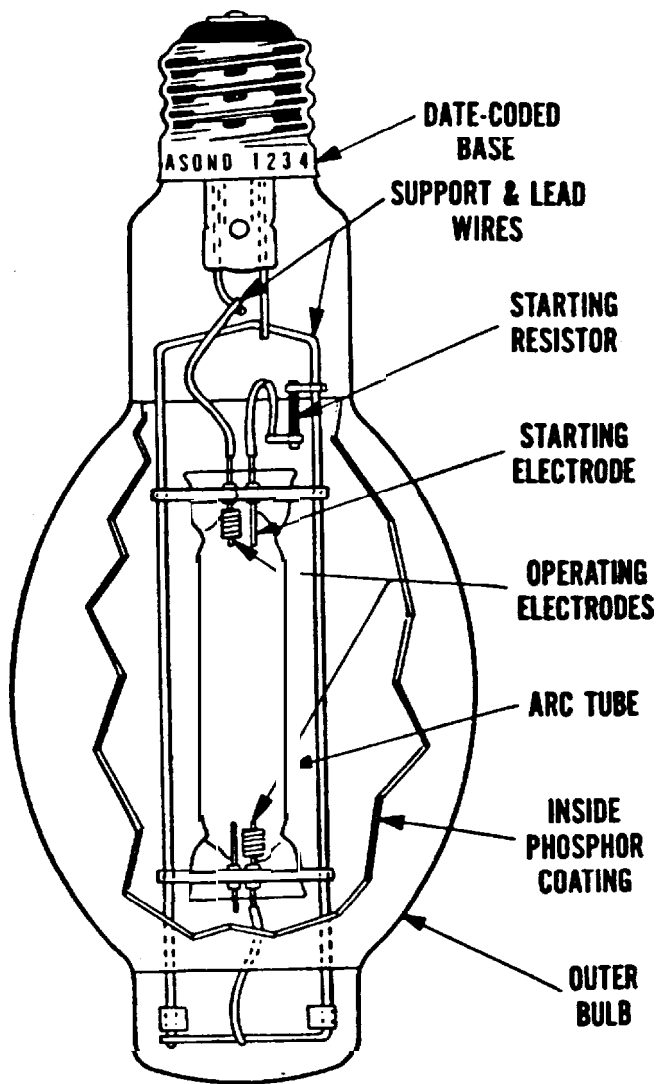

Figure 9-2. Mercury lamp.
a. Mercury lamps. The maintained light output of mercury lamps is high because the electrodes operate at a relatively cool temperature resulting in less oxide contamination of the operating electrodes and the discharge gas. Long average life (24,000 hours or more) is a primary characteristic of most mercury lamps. While some models may have lamp bases the same size as incandescent lamps, standard mercury lamps must never be used to replace a burned out incandescent lamp (fig 9-2). However, there are self-ballasted mercury lamps which can be used as direct replacements for incandescent lamps. The installer should check which type is compatible with the fixture before turning on the power. An objectionable characteristic of mercury lamps is the time required to reignite (several minutes) after a momentary loss of power. It should be noted that this lamp can cause serious skin burn or eye inflammation from ultraviolet radiation if the outer envelope of the lamp is broken or punctured, and the arc tube continues to operate. Lamps allowed to operate in this way constitute both a fire and a personnel safety hazard and should be replaced promptly. There are certain lamps available that will automatically extinguish when the outer envelope is broken.